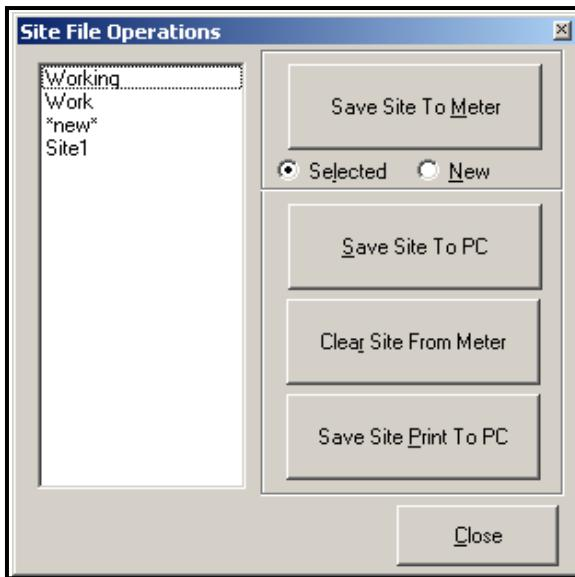

Figure 31: The *Site File Operations* Window
To access site files, click on the *Site Files* button in the *Properties* window. The *Site File Operations* window (shown in Figure 31) opens.
1. Highlight the desired site in the left pane. (See Figure 31 on page 91.)
1. Highlight the site in the left pane. (See Figure 31 on page 91.)